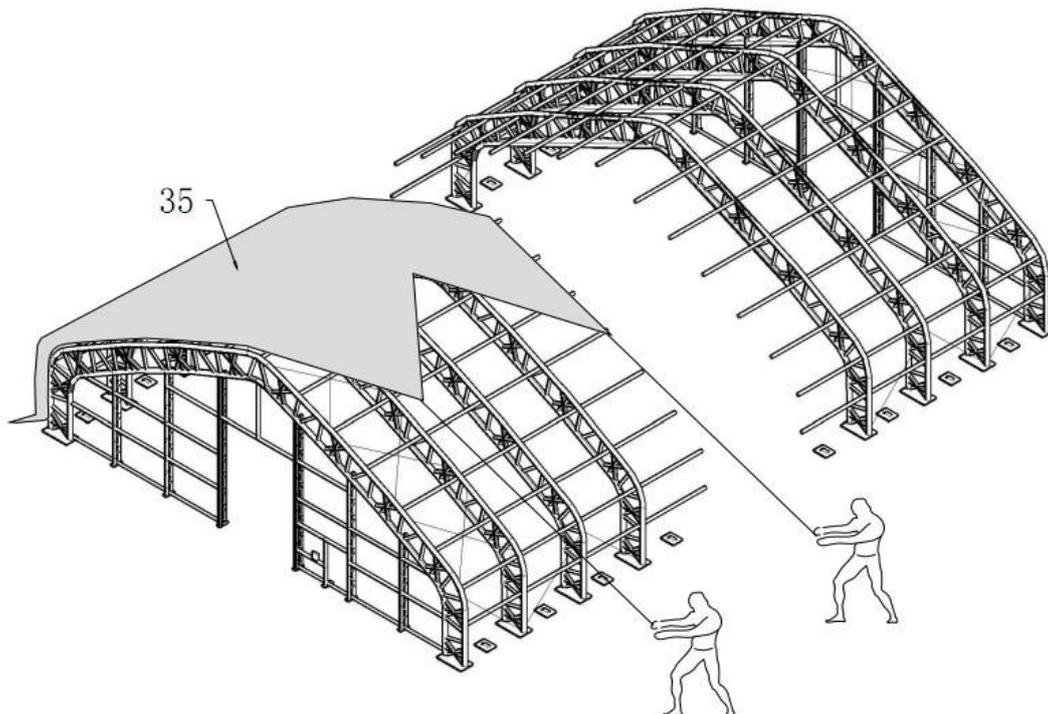
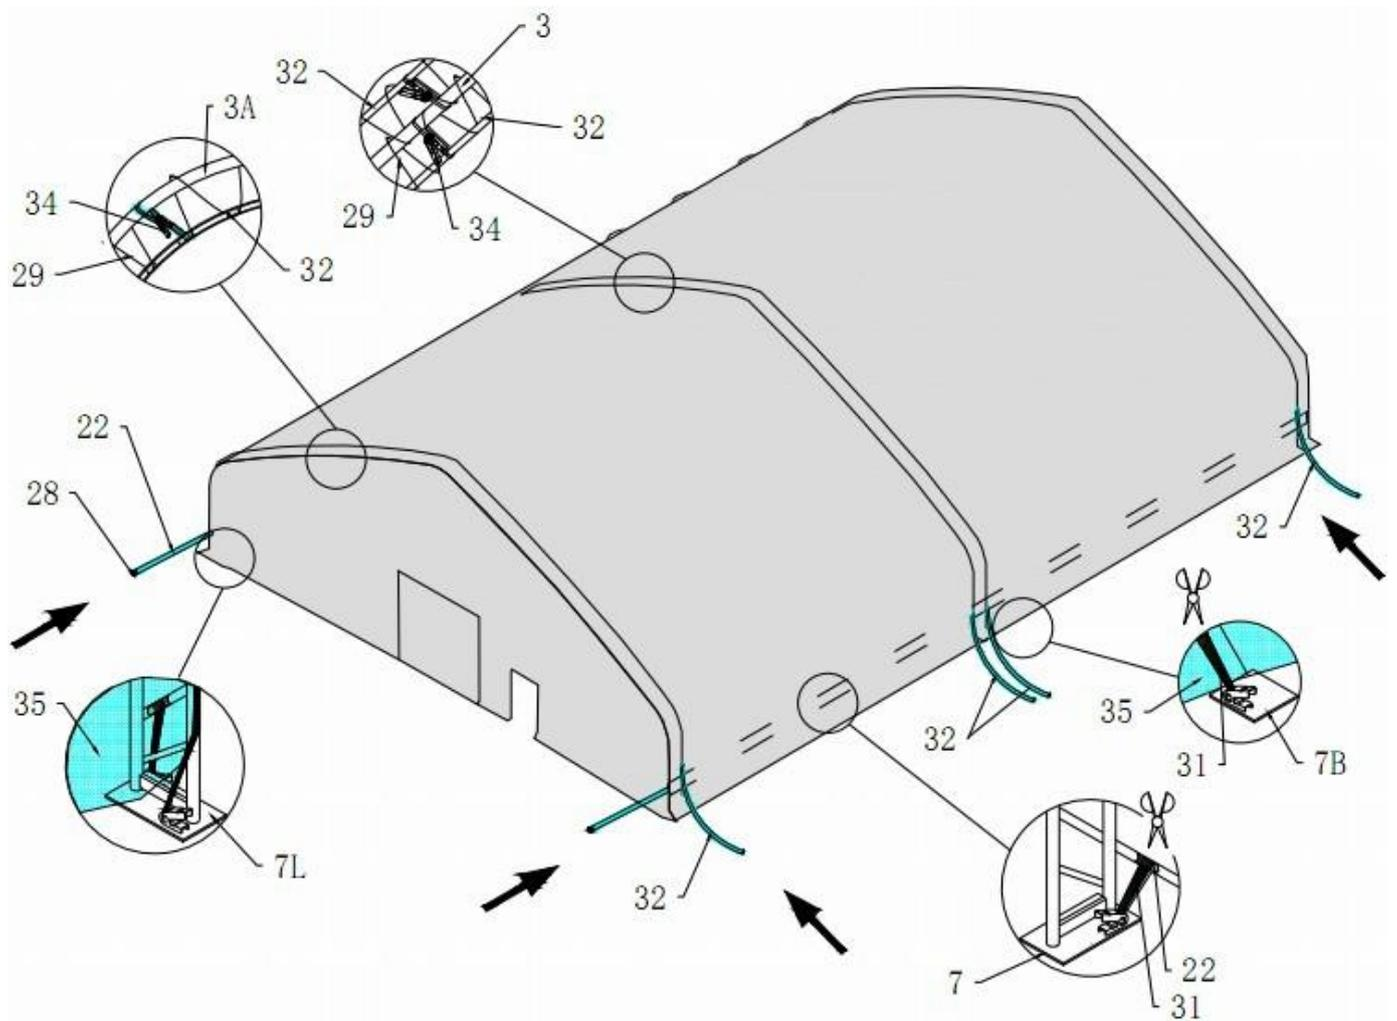

Figure 8
Figure 9
1. As Figure 8 shows, when two pieces of Roof cover is over top of Frame assembly (see Figure 8),insert the Tensioning tubes ,then put the plastic cap (NO.28) to end of tensioning tubes. (see Figure 9).